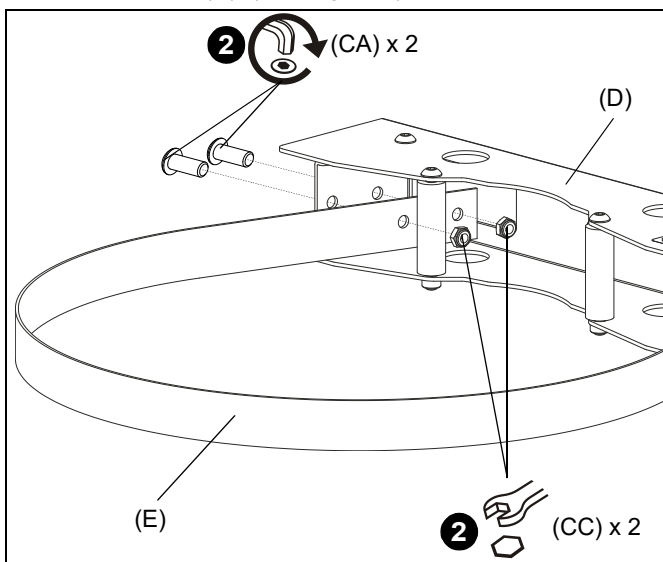

Figure 1
2. Use two 5/16-18 x 7/8" button head cap screws (CA) and two 5/16-18 hex nuts (CC) to attach column strap (E) to column clamp (D). (See Figure 1)